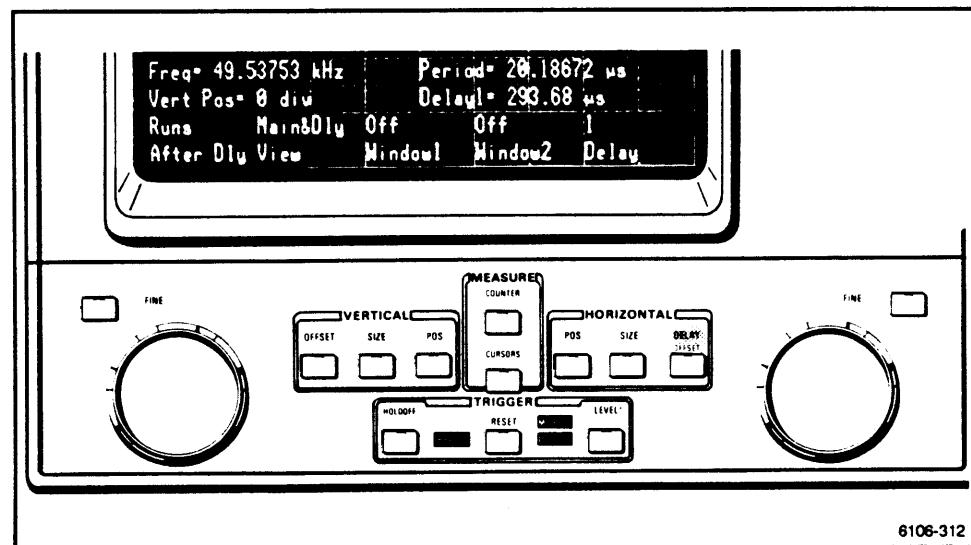

Figure 2-113. Adjusting the DELAY.
- Press the HORIZONTAL DELAY button and set the *After Dly* selection to **Runs**. (**Trig'd** may be used with the proper setting of the Delayed Trigger Level, if desired). Next touch *Delay* to read 1, and turn the right knob to align the gate pulse within the desired measurement region. (See Fig. 2-113.)